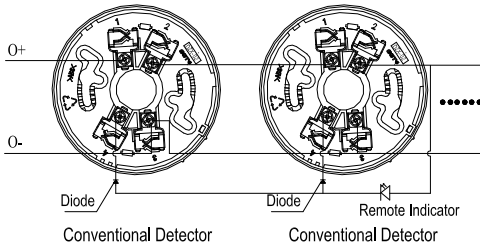

Fig. 7
- When multiple detectors are connected with a remote indicator, a diode 1N5819 should be connected to Terminal 4 of the orientation base in series before going to the positive of the remote indicator. System composition is shown in Fig. 7.